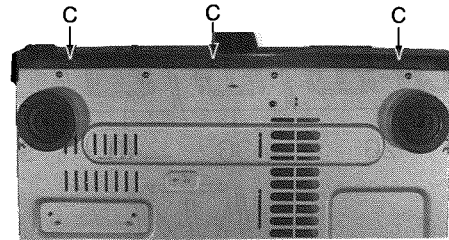

Fig.2
(2) Front panel assembly removal (See Fig.2,3)